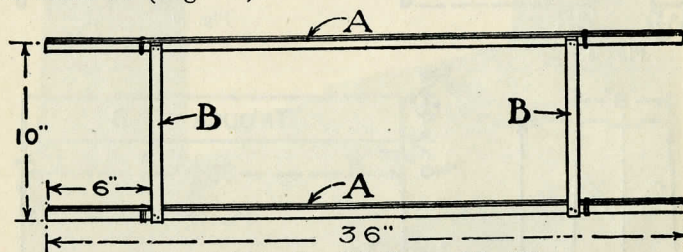
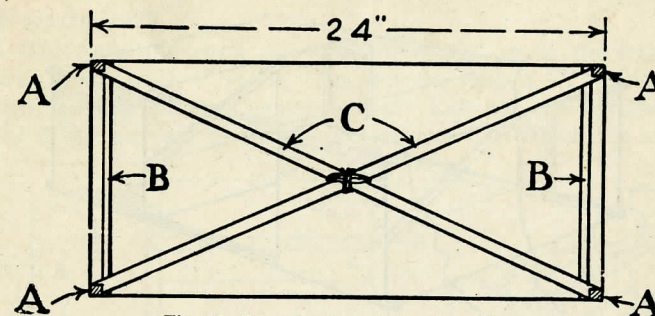
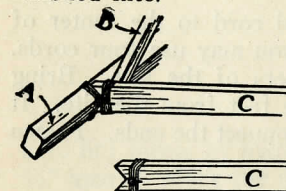

Fig. 55—Make Two Side Frames Like This
Fig. 56—Cross-Section of the Box Kite
Fig. 57—Detail of Diagonal Braces
The sticks may be of any strong, light-weight wood of straight grain. Cut with a sharp rip saw four horizontal sticks $\frac{3}{8}$ inch thick and $\frac{3}{8}$ inch wide by 36 inches long (A, Fig. 55), and four upright connecting sticks (B, Fig. 55) $\frac{1}{4}$ inch thick, $\frac{1}{2}$ inch wide and 10 inches long. Nail the upright sticks and the horizontal ones 6 inches from the ends of the latter, as shown in Figure 55, using slender brads (slender box-nails are best as these have flat heads). Clinch the projecting ends. Be sure to set sticks B at right angles to sticks A (Fig. 55).
To put the kite together, slip these cloth or paper bands over the side frames, spread the frames as far apart as possible, and put in temporary sticks between the upright sticks (B) to hold the frames stretched. Carefully measure the cells diagonally. For the diagonal braces see Figure 56. These should be notched at the ends to fit the sticks A, as shown in Figure 57, and they should be a little long, so that they will be slightly bow shaped when put in place, to keep the cloth or paper bands stretched tight. Remove the temporary braces.
Lash the notched ends with thread to keep them from splitting. Lashings of thread around the frame sticks (A) (Figs. 55 and 57) will keep them from slipping away from the uprights (B). Bind the braces together at their centers, as shown in Figures 56 and 58. Coat the lashings with glue after winding them and the thread will hold its position better.